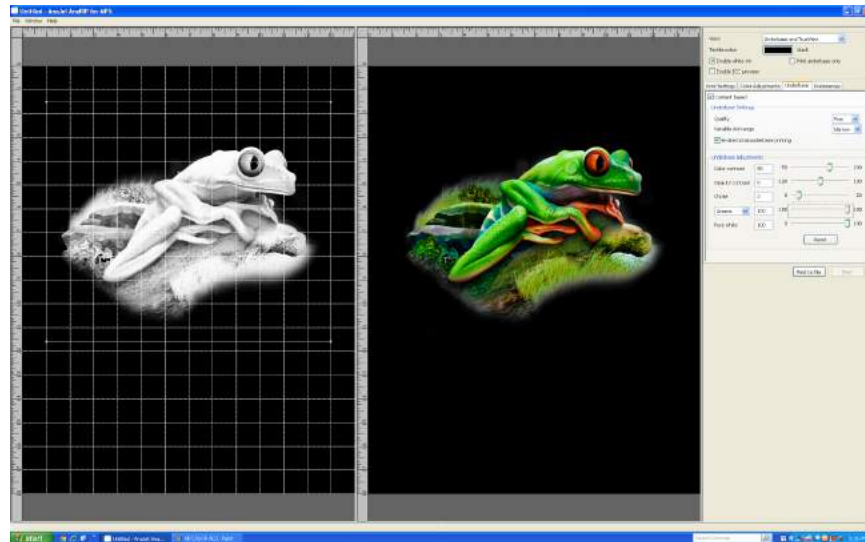

Figure 6.5l: Color Adjusted Up
- **Individual Color Adjustments** By selecting a color from this drop down menu you are able to increase or decrease the amount of white ink underbase that will print under that color. This will help you bump up or bring down certain colors in your final print. You can multiple different colors using this setting. (Figure 6.5l and 6.5m)